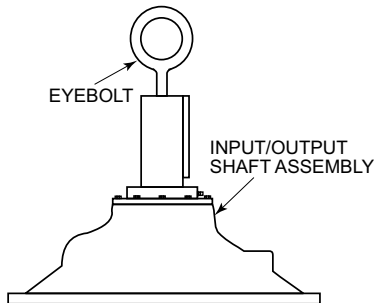

Figure 6.3.1 Proper Lifting of Input or Output Shaft Assemblies
- Remove assembly by lifting it straight up away from the maincase. An eye bolt can be used in the threaded end of the shaft to lift the assembly; reference Figure 6.3.1. **DO NOT LIFT ENTIRE REDUCER BY THE THREADED HOLE ON EITHER SHAFT.**